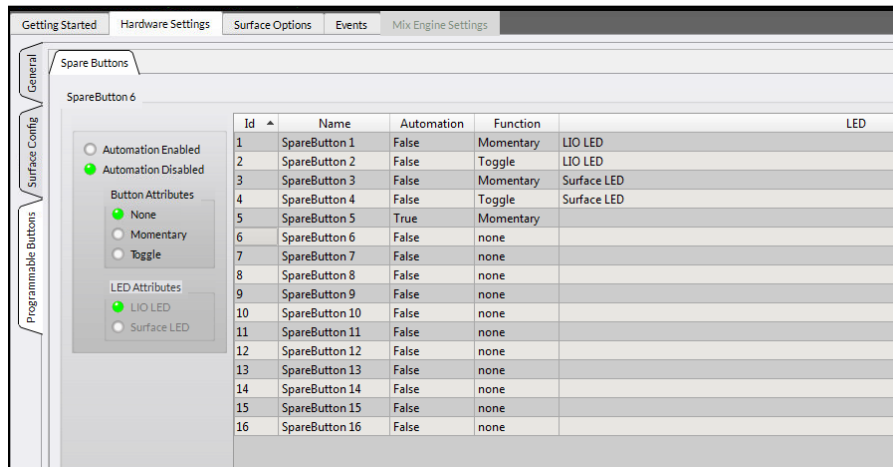

Figure 3-32 Programmable Buttons Page Tab – Spare Buttons Tab
This page tab (Figure 3-32 on the next page) has one tab: **Spare Buttons**, to set the attributes for the sixteen Programmable Buttons and their LEDs located across the middle of the Master Module. The buttons are named *SpareButton1* – *SpareButton16*. To set a Spare Button's attributes, click on its row (it highlights) then set the **Button Attributes** selection (*Momentary* or *Toggle*) and the **LED Attributes** selection (*LIO LED* or *Surface LED*) to set how that Spare button operates and how its LED lighting is controlled. The various combinations of Button/LED attributes are shown set for Spare buttons 1 – 4 in Figure 3-32.
One Spare button can be set to function as an automation system control enable/disable switch by selecting a row then clicking the **Automation Enabled** option. This automatically assigns Automation as True; Function as Momentary; and removes any entry in the LED column, as shown by the Spare 5 button settings in Figure 3-32.
4. Select the LIO Info tab and add the Output logic Function you want to send when the button is pressed, and/or add an Input logic Function you want to control the button's LED (when that Spare button is set for LIO LED, as shown in Figure 3-32).